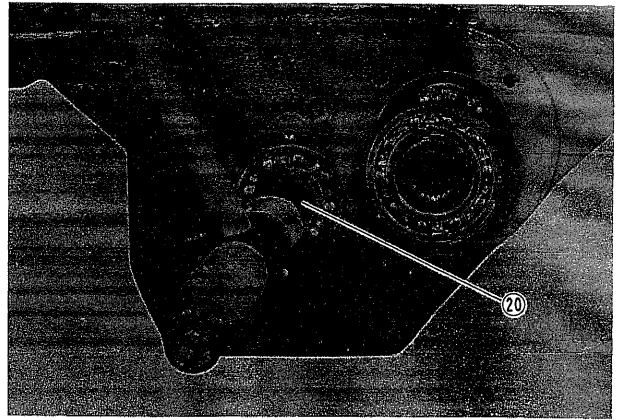

Fig. 35
(7) Tap out shaft (20) toward coupling. (Fig. 35)